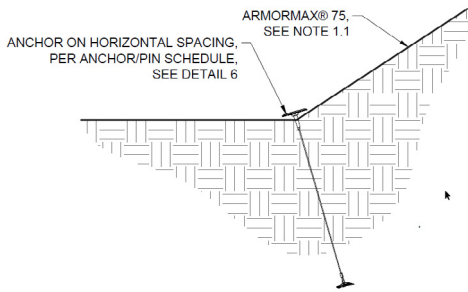

Figure 11: Break in Slope Interface
- At the break in slope interface towards the TOS, it is suggested that anchors be installed on intervals based on the slope stability analysis (Figure 11).